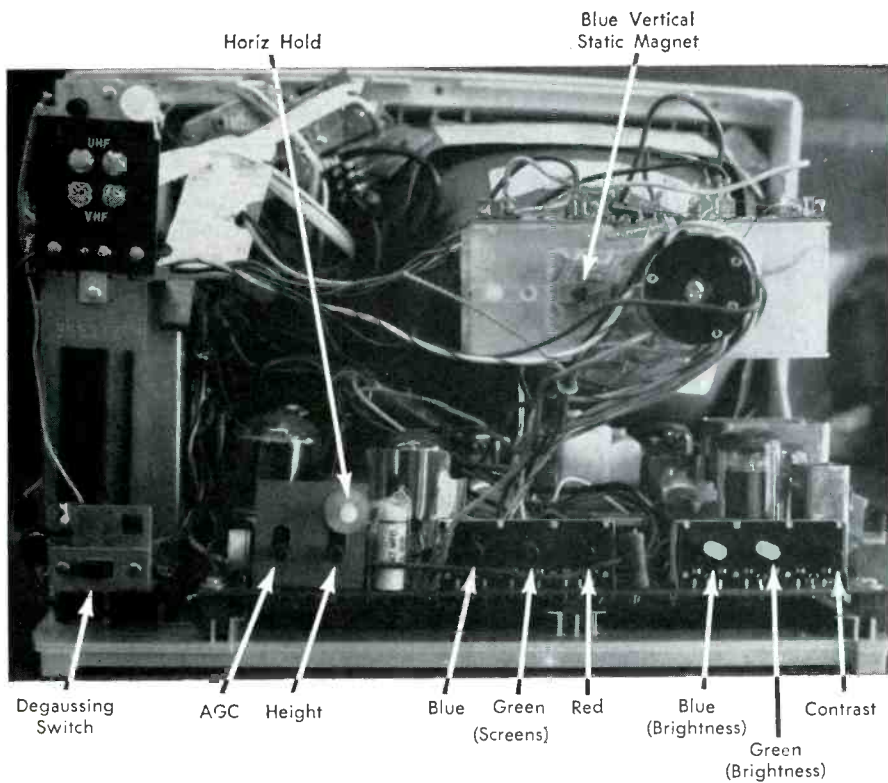

Fig. 5—Rear view of chassis showing the three CRT screen controls and the blue and green color brightness controls.
1. Turn the three CRT SCREEN controls located on the back of the set (see Fig. 5) fully clockwise (CW).
4. Adjust either or both of the two BRIGHTNESS controls (BLUE and GREEN controls in the set's rear as shown in Fig. 5) to eliminate color shading of the white raster. And if you cannot get a pure white screen with these adjustments, don't worry about it. Continue with the gray-scale procedure.